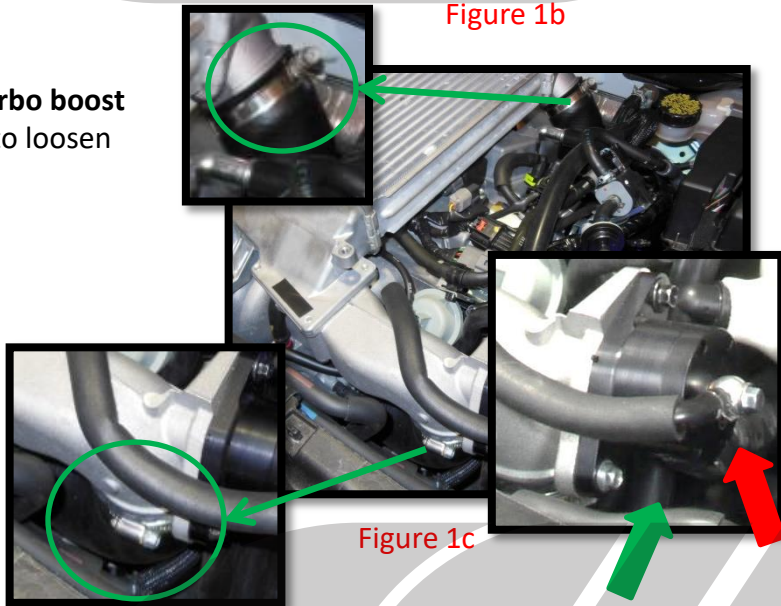

Figure 1c
- c) Remove the clamps for the throttle body and turbo boost tubes from the intercooler. Use a 10mm socket to loosen the clamps (green circles in Figure 1c).
- d) Detach the bypass valve (BPV) from the intake. Remove the vacuum signal hose (red arrow), and the large BPV to the intake hose by compressing the clamp with pliers (green arrow in Figure 1c). Leave the bypass valve attached to the intercooler pipe.